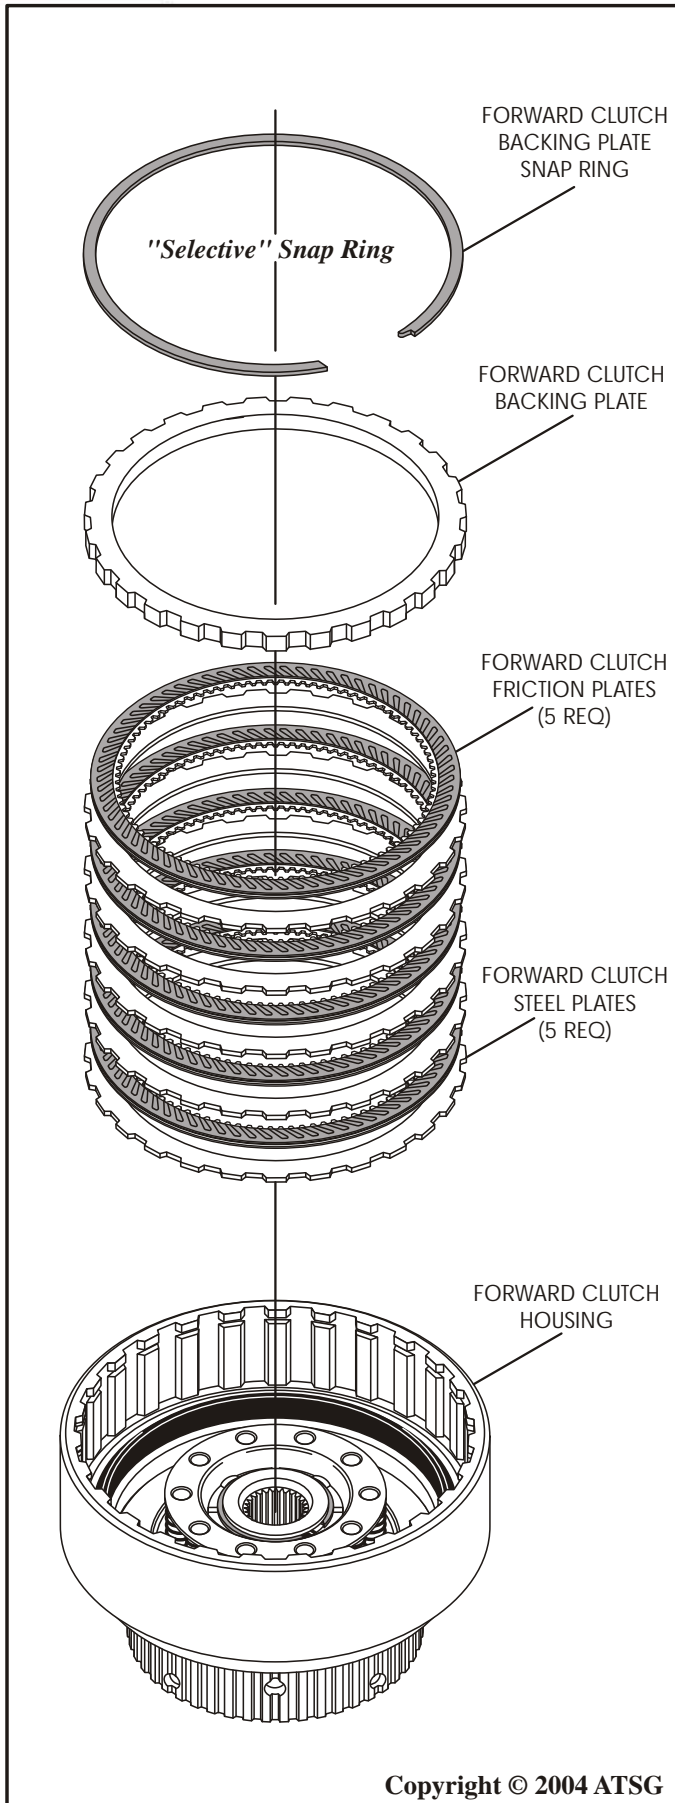

Figure 89
11. Install the forward clutch plates beginning with a steel plate and alternating with friction plates, until you have installed 5 of each, as shown in Figure 89.
12. Install forward clutch backing plate, as shown in Figure 89.
13. Install forward clutch backing plate snap ring, as shown in Figure 89 and ensure that it is fully seated in the groove.